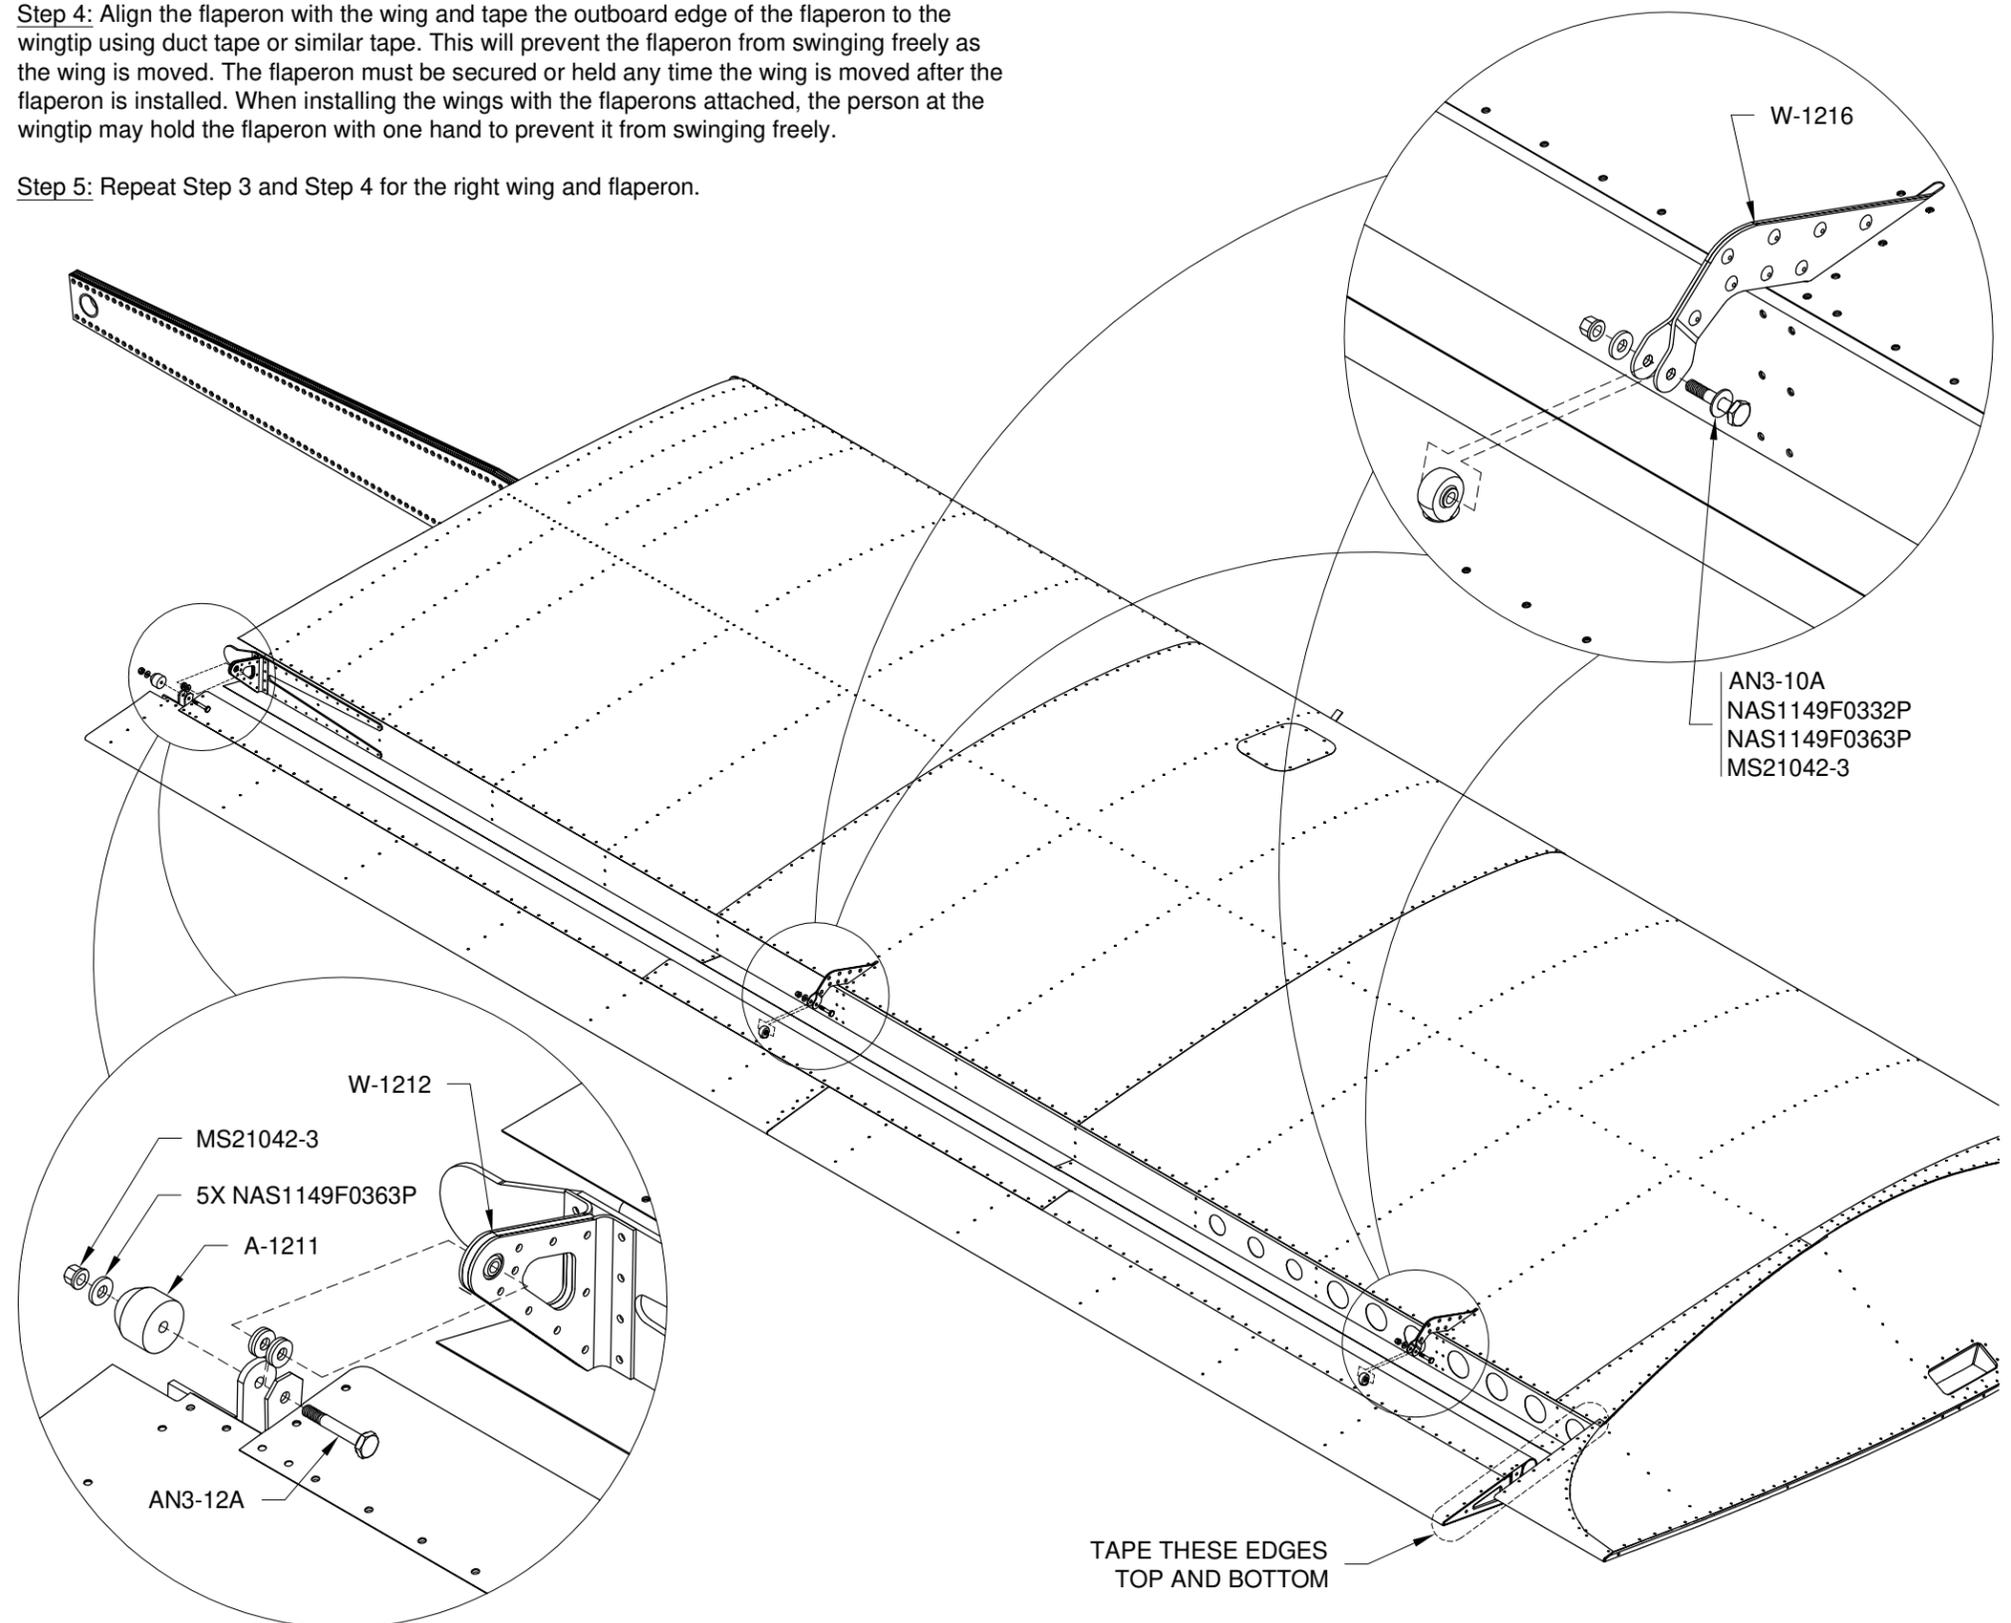

FIGURE 2: FLAPERON INSTALLATION
Step 3: Place a layer of carpet or an old blanket on the work surface. Lay the left wing upside-down on the covered work surface and position the left flaperon as shown in Figure 2. Using the hardware called out, attach the flaperon to the wing and install the A-1211.